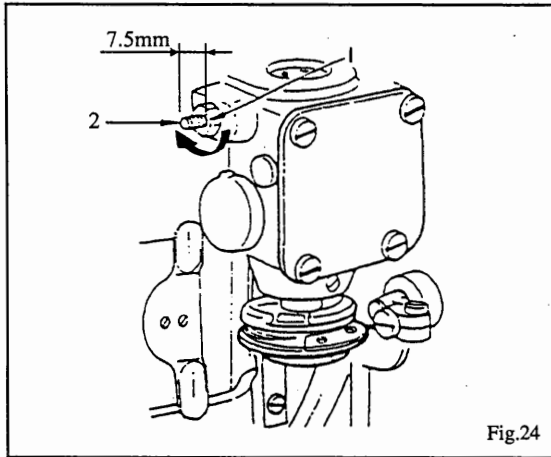

Fig.24
NOTE: If oil supply to sewing hook is still not sufficient even when oil flow regulating valve (1) is adjusted to maximum, loosen nut (1), Fig. 24 and turn oil flow regulating screw (2) in the direction of arrow (A).
Fasten belt guards (1) and (2) to machine head with belt guard screws (3) and (4) and also with nuts (5) as shown in Fig.24. Then fasten belt guard (6) to table with wood screws (8) making sure it will not interfere with belt guard (1) and (2), and so that the V-belt will rest against the belt guard slide (7) when machine is tipped back on its hinges.